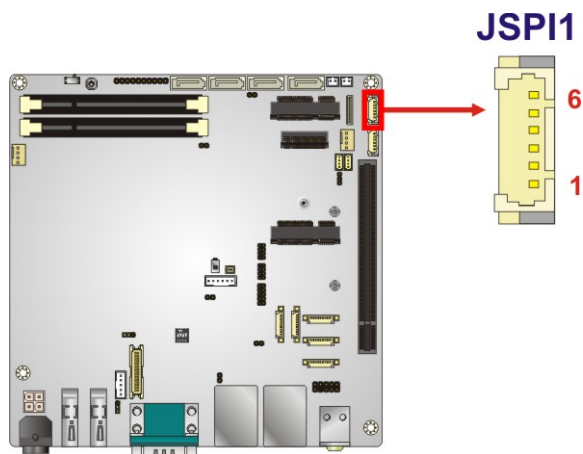

Figure 3-24: SPI Flash Connector Location
- CN Location:** See **Figure 3-24**